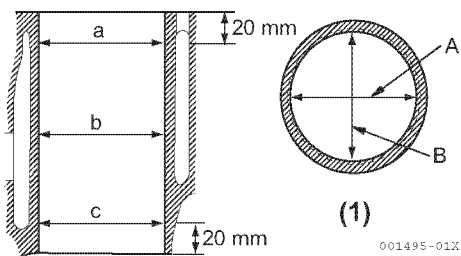

Figure 5-60
- Measure at 20 mm (0.8 in.) from the bottom of the skirt in both directions A and B as shown in **Figure 5-60**.
Use a Dial Bore Gauge to measure the cylinder bore diameters. Measure the cylinder bore twice at right angles at position A and B, shown in **(Figure 5-60)**.
- First two measurements, at position **(Figure 5-60, (a))** at the top of the cylinder bore.
- Second two measurements, at position **(Figure 5-60, (b))** in the middle of the cylinder bore.
- Third two measurements, at position **(Figure 5-60, (c))** at the bottom of the piston ring travel in the cylinder bore.